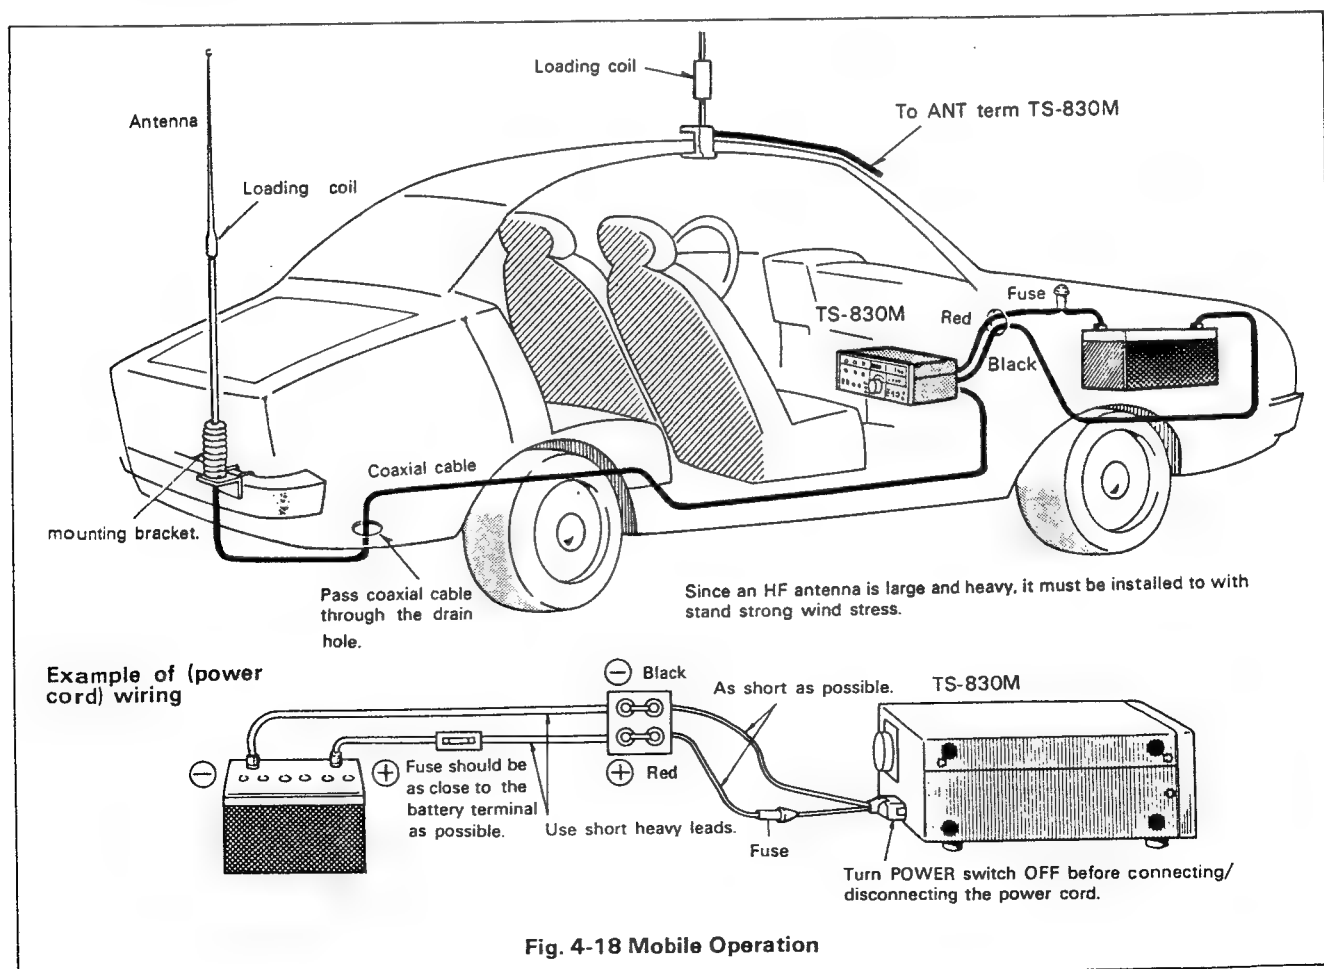

Fig. 4-18 Mobile Operation
(2) Coaxial Cable Connection (Fig. 4-18)